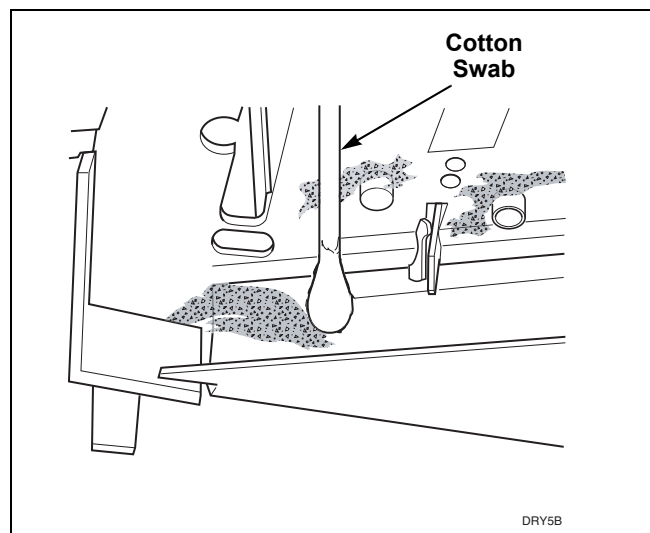

Figure 21
- Check coin path in coin drop for lint and residue. If lint or light residues are present, use a cotton swab to remove. If heavy residue is present, it may be necessary to first scrape off excessive residue and then use a cotton swab dipped in water or isopropyl alcohol (rubbing alcohol) to remove remainder of residue. Refer to *Figure 21*.